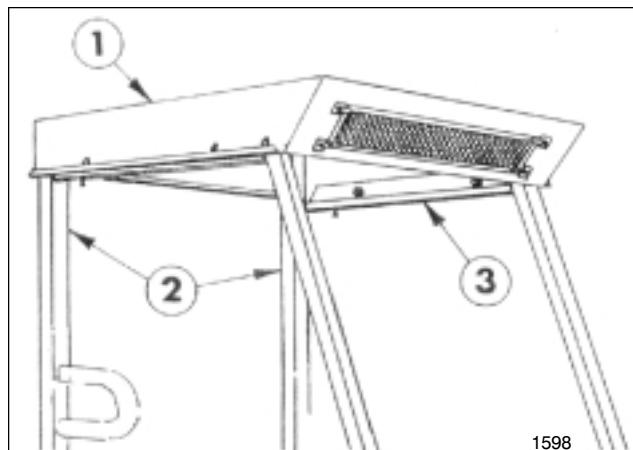

FIG.3
11. Remove the (3) 1/4" flange hd. bolts that secure the Blower Assembly to the front of the Enclosure Cover and remove Blower. Set Blower and flange bolts aside for future installation.
12. Remove the (4) 3/8" x 3/4" flange hd. bolts, lockwashers, and hex nuts that secure the two Door Channels to Enclosure Cover. Set Door Channels and flange bolts aside for future installation.
13. Set Enclosure Cover on top of the ROPS by hooking the rear of Enclosure Cover over the back of the Rear ROPS Bar and slide Cover forward to align front mounting holes. See FIG 3.